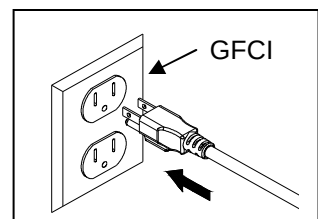

Fig. 3
3. Place the Pond Boss™ into the water and connect to a proper power source. Fig. 3